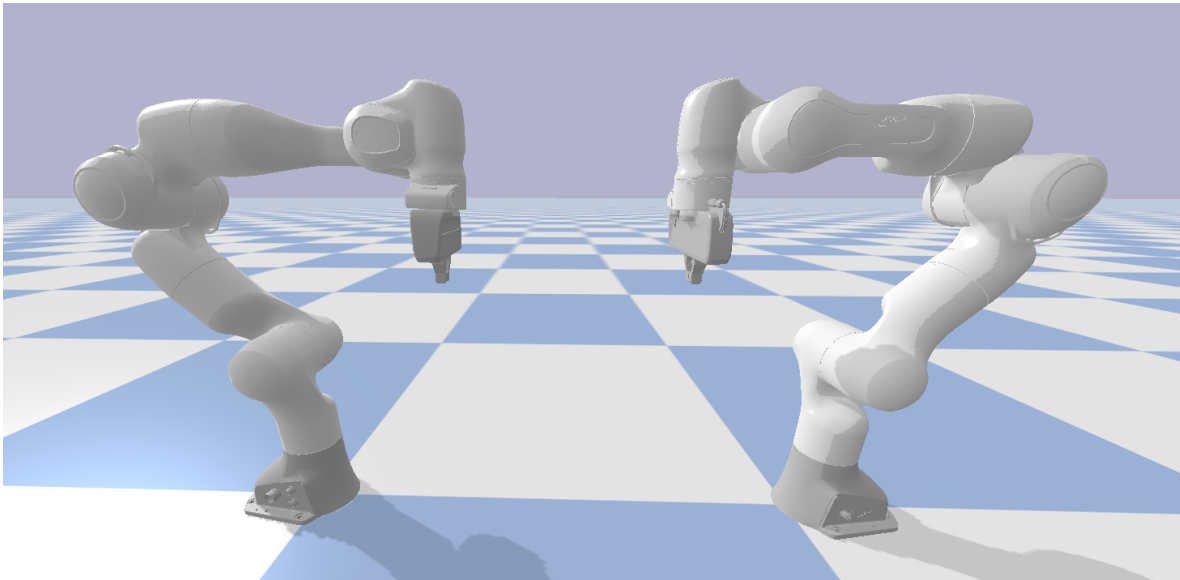

Figure 1: Left and Right robotic arms
- To run the visualization of the manipulators go to the folder *python_simulator* and type in a shell `python3 franka_panda_simulation` to launch the simulator. You'll see a scene with two Franka Panda, the left Arm and the Right Arm see Figure 1. Rotate the camera by pressing `ctrl+left_button` while dragging the mouse, move the camera by `ctrl+Alt+left_button` while dragging the mouse.